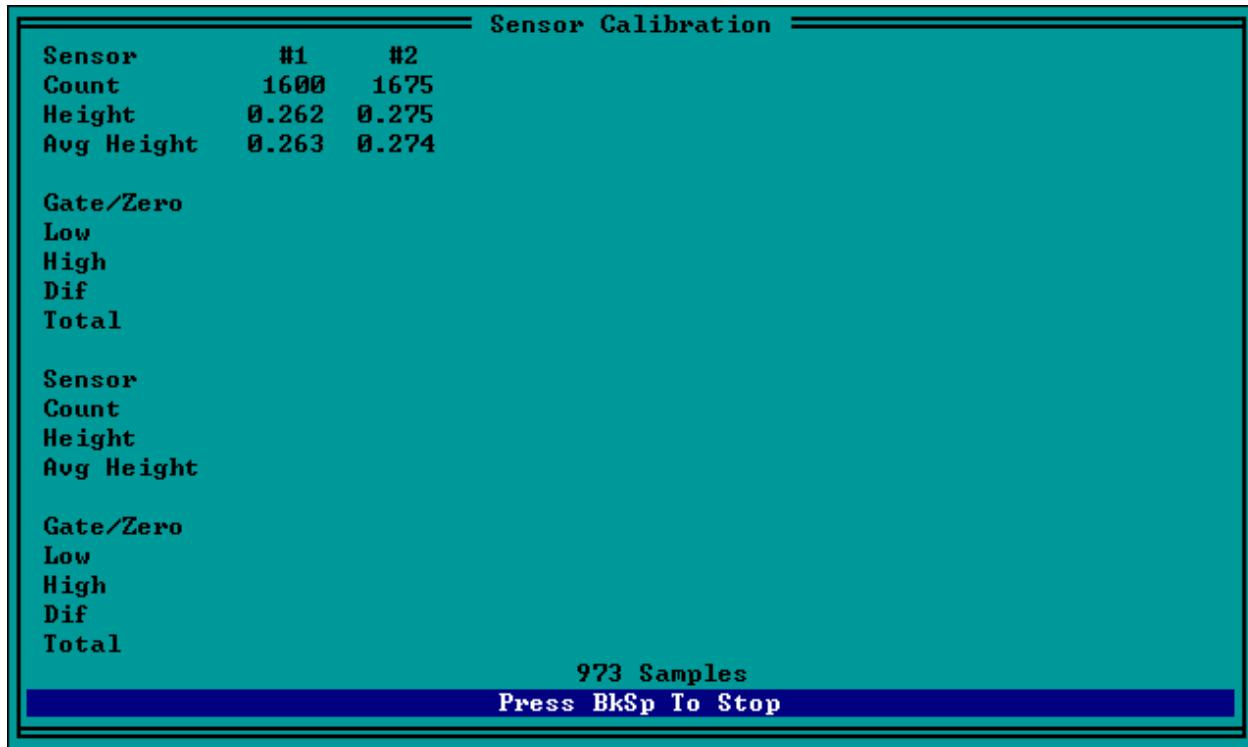

Figure 4-1. MDR Software Sensor Calibration Screen for Pre-Run Laser Sensor Check.
5. In the Calibration Sensors Menu, highlight 'Go' and press 'Enter' key. The monitor will display the sensor calibration screen similar to Figure 4-1.